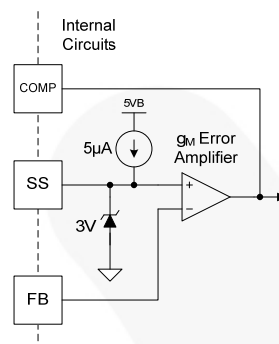

Figure 27. FAN9611 Error Amplifier Configuration
Implementing this function with a circuit external to the FAN9611 is straightforward because the error amplifier reference (the positive input) is available on the soft-start (SS) pin, as shown in Figure 27. In the FAN9611 architecture, the power of the converter is proportional